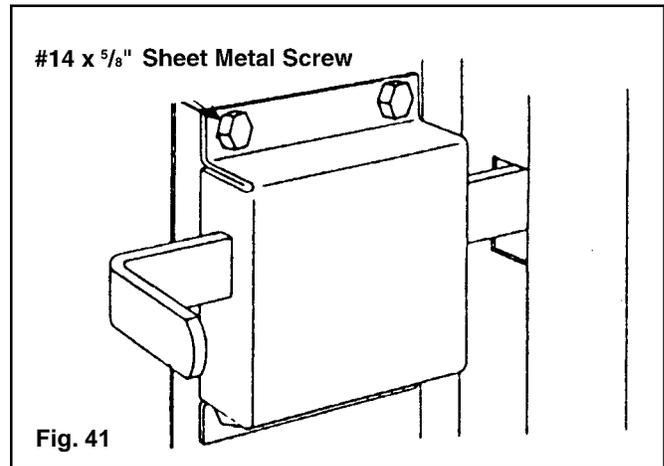

Fig. 41
The inside bolt is installed on the end stile of the second section using (4) #14 x 5/8" hex head sheet metal screws. The slide bolt rests against the top of one of the rectangular engaging slots in the vertical track. Proper alignment is easier to achieve by using track as a guide. (FIG. 41)